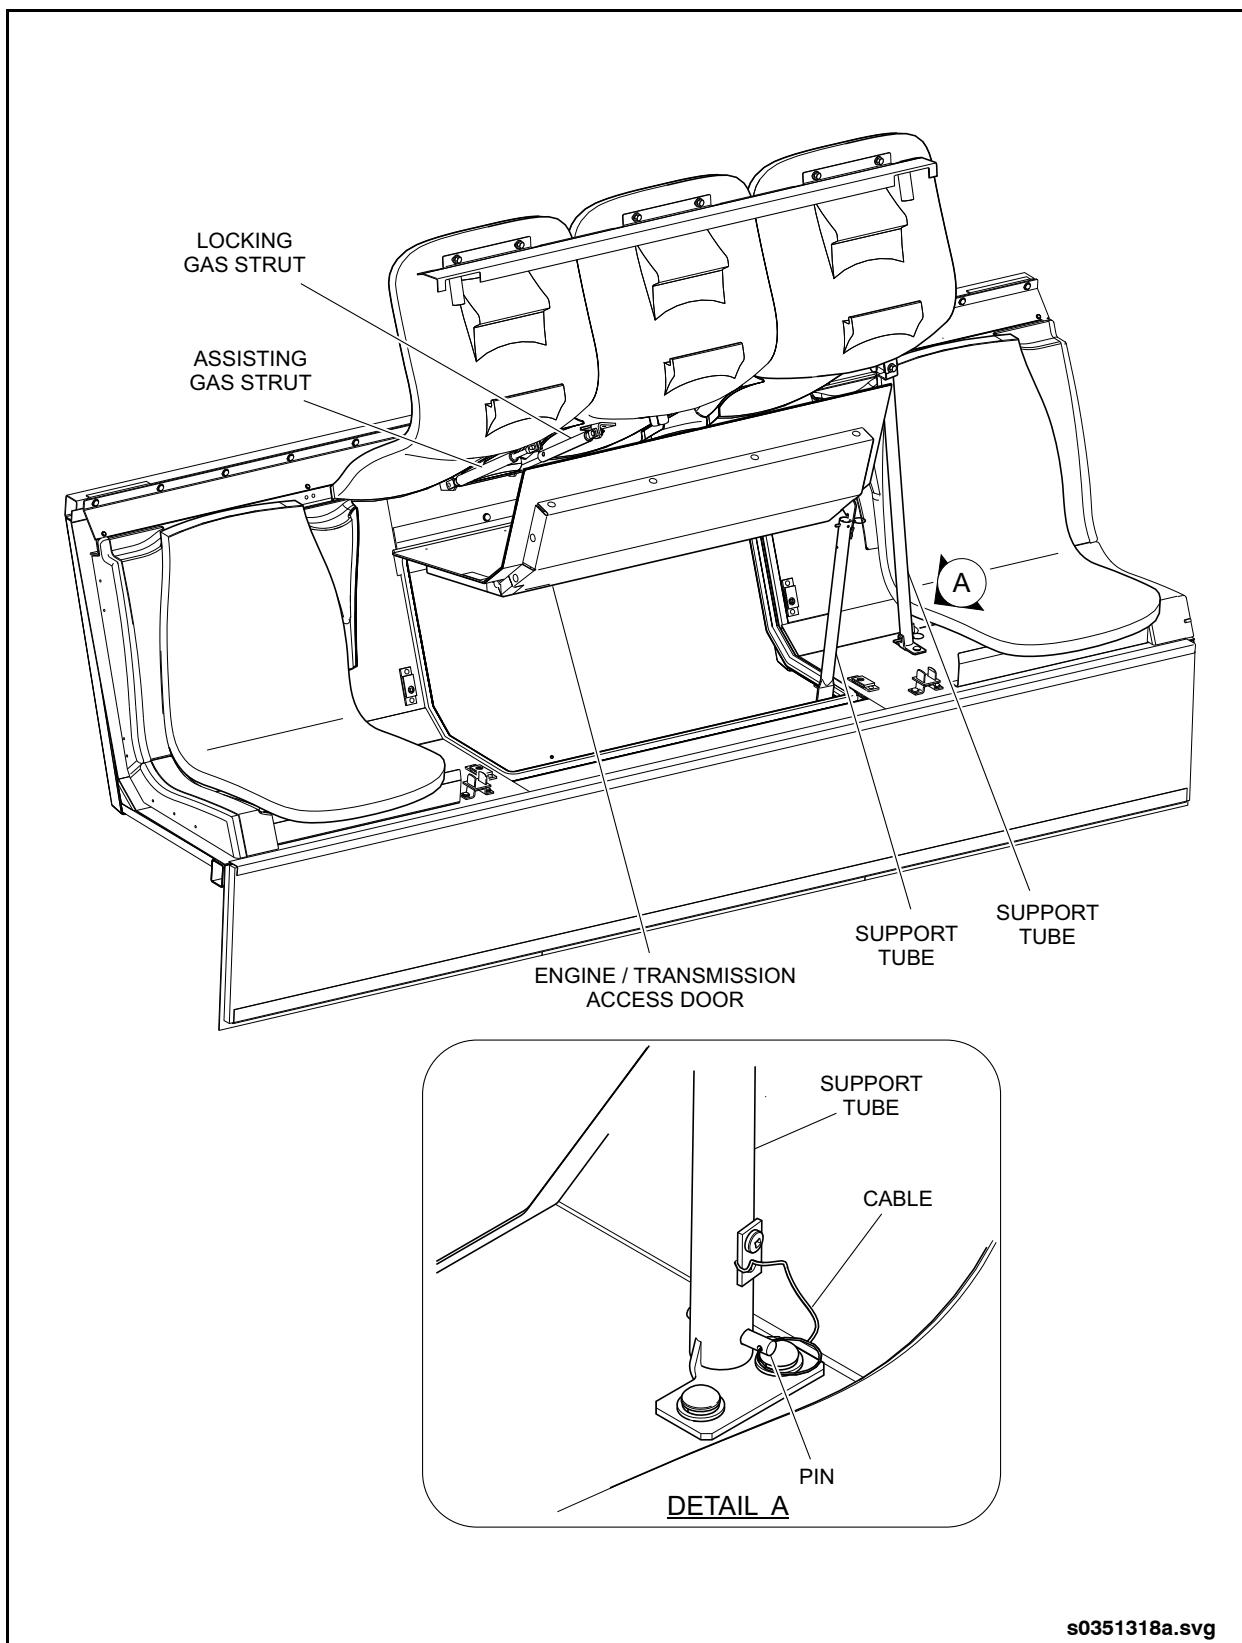

Fig. 15-2: Engine & Drive Unit Access Doors
3. Locate the support tube and unlatch it from its storage clip. See "Fig. 15-2: Engine & Drive Unit Access Doors" on page 5.